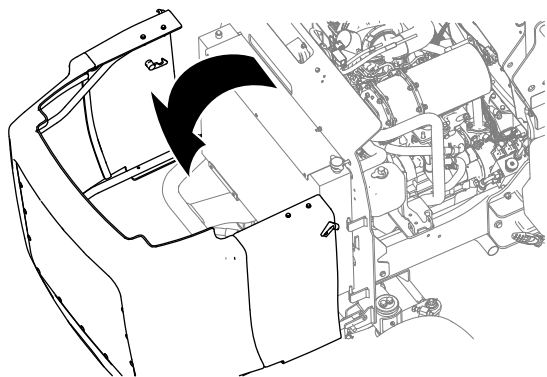

Figure 70
5. Unlatch and open the hood (Figure 70).